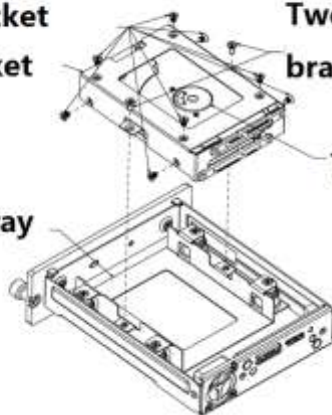

Figure 3-5
Step 4 Use eight screws to secure the HDD and the HDD bracket. Then use two screws to secure the HDD bracket and HDD tray. See Figure 3-5.